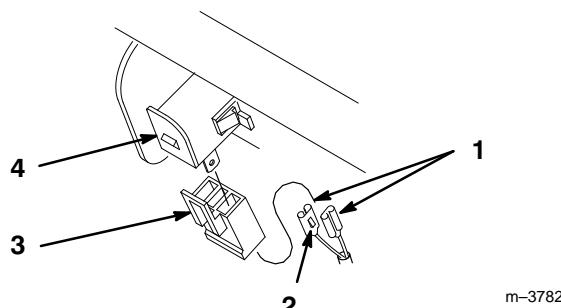

Figure 4
- Insert terminals into plastic plug until the clips snap into position (Fig. 4). If they do not snap turn around.
- Push plug onto switch to latch interlock (Fig. 4).